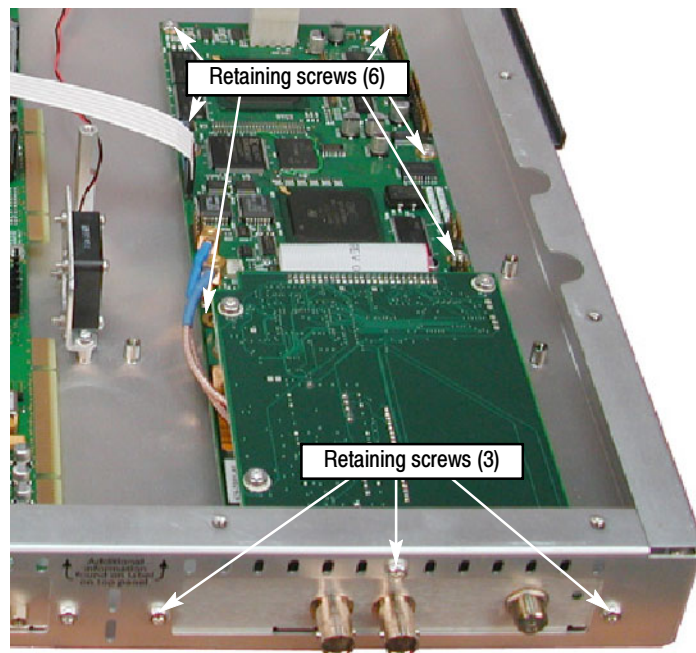

Figure 21: Retaining screw locations for QAM (Annex B, new version), 8PSK, 8VSB, and COFDM interface boards
- b. For QAM (Annex B, new version), 8PSK, 8VSB, and COFDM, interface boards, remove the six retaining screws from the board and remove the three retaining screws from the rear panel as shown in Figure 21.
- b. For QAM (Annex B, new version), 8PSK, 8VSB, and COFDM interface boards, install the six retaining screws in the board and install the three retaining screws in the rear panel as shown in Figure 21.